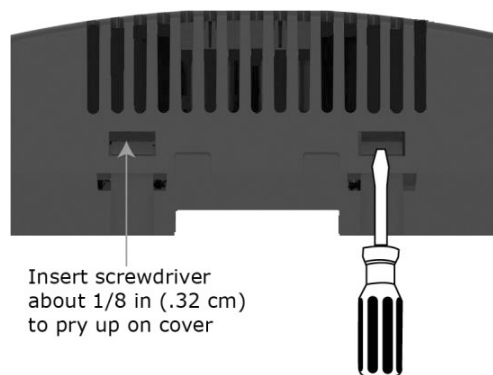

Fig. 36 — Fuse Access
2. On both ends of the TV-RTU, insert a small flathead screwdriver as shown in Fig. 36, and then gently pry up the cover until it is released from the base.